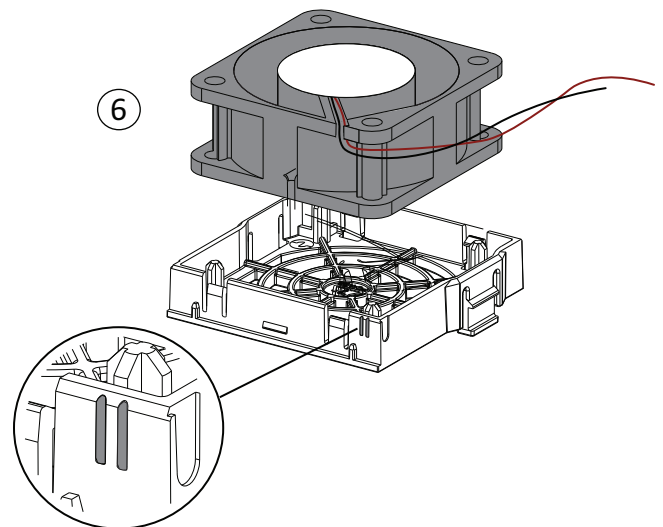

Fig. 14 — Install New Fan into Fan Cover
6. Install the new fan into the fan cover. Make sure that the air flow is in the correct direction. The air flows in from the bottom of the drive and out from the top of the drive. As shown in the following figure, the side with the fan power cable is aligned to the double bars sign on the fan cover. (See Fig. 14.)